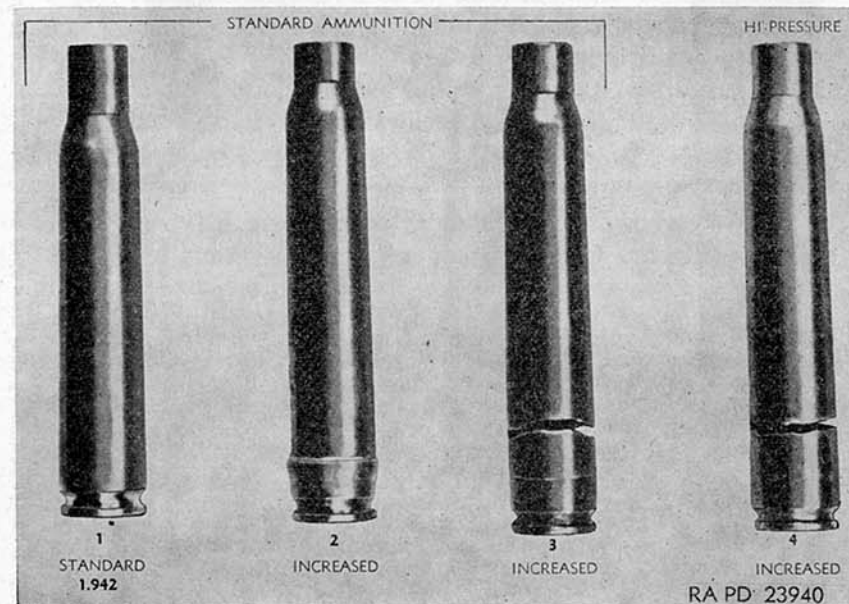

Figure 23. Effects of excessive head space on cartridge cases, cal.30 machine gun.
a. *Excessive Head Space.* This condition frequently causes trouble. There is a series of notches (serrations) around the breech end of the barrel in which a spring fits for locking the barrel into place. The spring sometimes sticks on the end of the barrel before slipping into the notches and thereby leaves too much head space. TM 9-1205 gives instructions for adjusting head space. When positioning the barrel, check to see that the notches are actually on the spring instead of merely against its end. Figure 23 illustrates typical effects of excessive head space on fired cartridge cases.
- (1) Case "1" in figure 23 is that of a standard ball cartridge fired in a gun with standard head space of 1.942 inches. The appearance of the case is normal.
- (2) Cases "2," "3", and "4" in figure 23 are those of ball cartridges fired in guns having excessive head space. The gun in each instance was undamaged. Note the deformation of the forward portion of each case: the lengthening of the first cone and shortening of the neck. Such case deformation occurs only when the case lies to the rear of its fully chambered position.
- (a) Case "2" in figure 23 exhibits the effect of $\frac{3}{16}$ -inch excess head space with ammunition loaded to standard pressures. Note the shortened case neck and the annular bulge formed on the first cone of the case immediately to the rear of the chamber.
- (b) Case "3" in figure 23 is that of a standard ball cartridge fired in a gun having $\frac{1}{4}$ -inch excess head space. Note the shortened neck and the separation of the case approximately one-half inch from the head.
- (c) Case "4" in figure 23 shows the effect of firing a high pressure cartridge in a gun having $\frac{3}{16}$ -inch excess head space. Note evidence of excessive head space in the separation approximately one-half inch from the head of the case and in the shortened neck. Also, note evidence of high pressure in the heavy marking of the case by the chamber wall and in the relative sharpness of the newly formed shoulder crest joining the first and second cones.